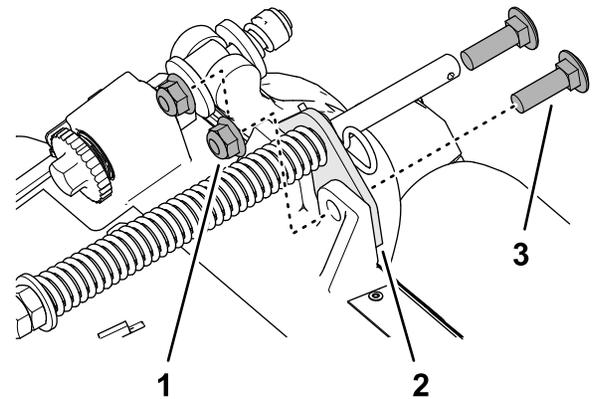

Figure 8
2. Remove the 2 flange locknuts (3/8 inch) and 2 carriage bolts (3/8 x 1-1/4 inches) that secure the turf-compensator bracket to the cutting-unit frame (Figure 8).